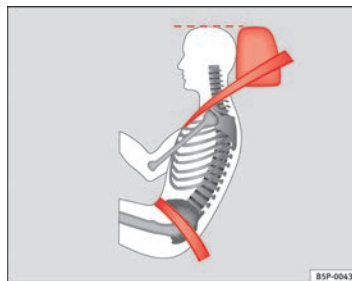

Fig. 13 Correct seat belt and head restraint positions, viewed from side ▶
- The lap part of the seat belt must lie across the pelvis, never across the stomach. The seat belt must lie flat and snugly on the pelvis ⇒ page 23, fig. 13. Pull the belt tight if necessary to take up any slack.